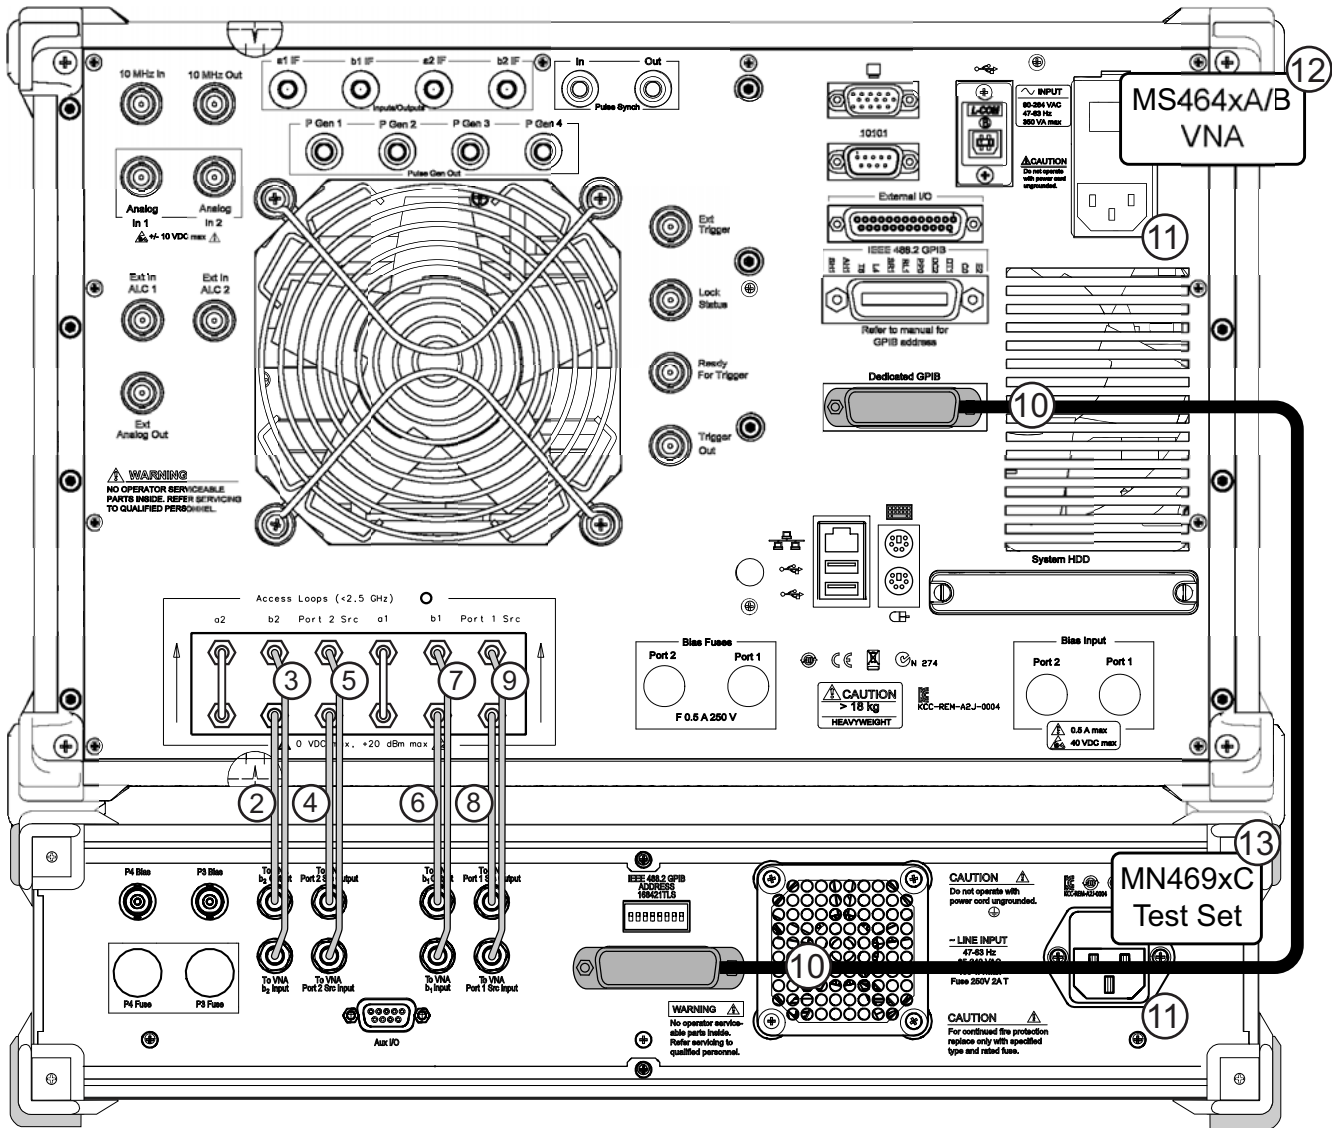

Figure 2. MS464xA/B VNA and MN469xC Test Set Rear Panel Connections (MS464xB shown)
1. Connect the GPIB cable between the VNA Rear Panel **Dedicated GPIB** connector and the Test Set **IEEE 488.2 GPIB** connector as shown in **Figure 2**.
3. Install the eight semi-rigid cables provided as shown in **Figure 2** and **Table 1**.